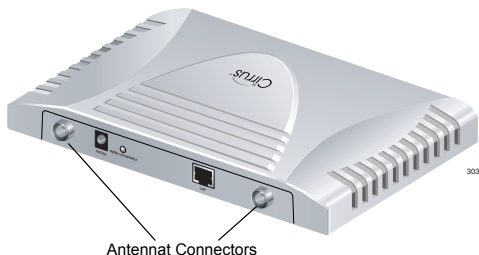

Figure 3. Location of the Antenna Connectors
2. Locate the antenna connectors in the back of the AT-WA7400 Wireless Access Point, as shown in Figure 3.